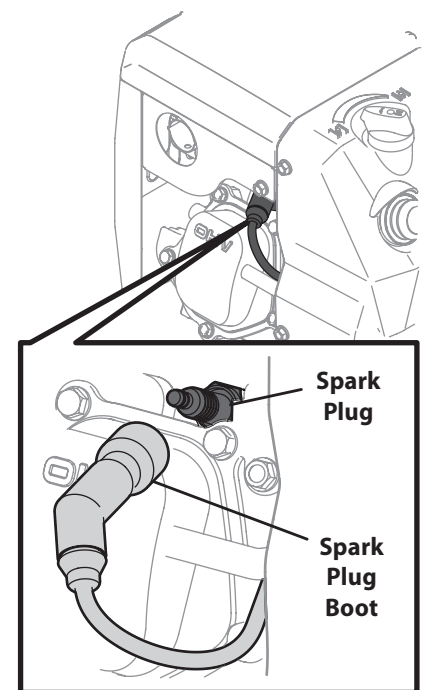

Figure 6-2
1. Carefully disconnect the spark plug wire and keep it away from the spark plug. Refer to "Figure 6-2" for spark plug location.